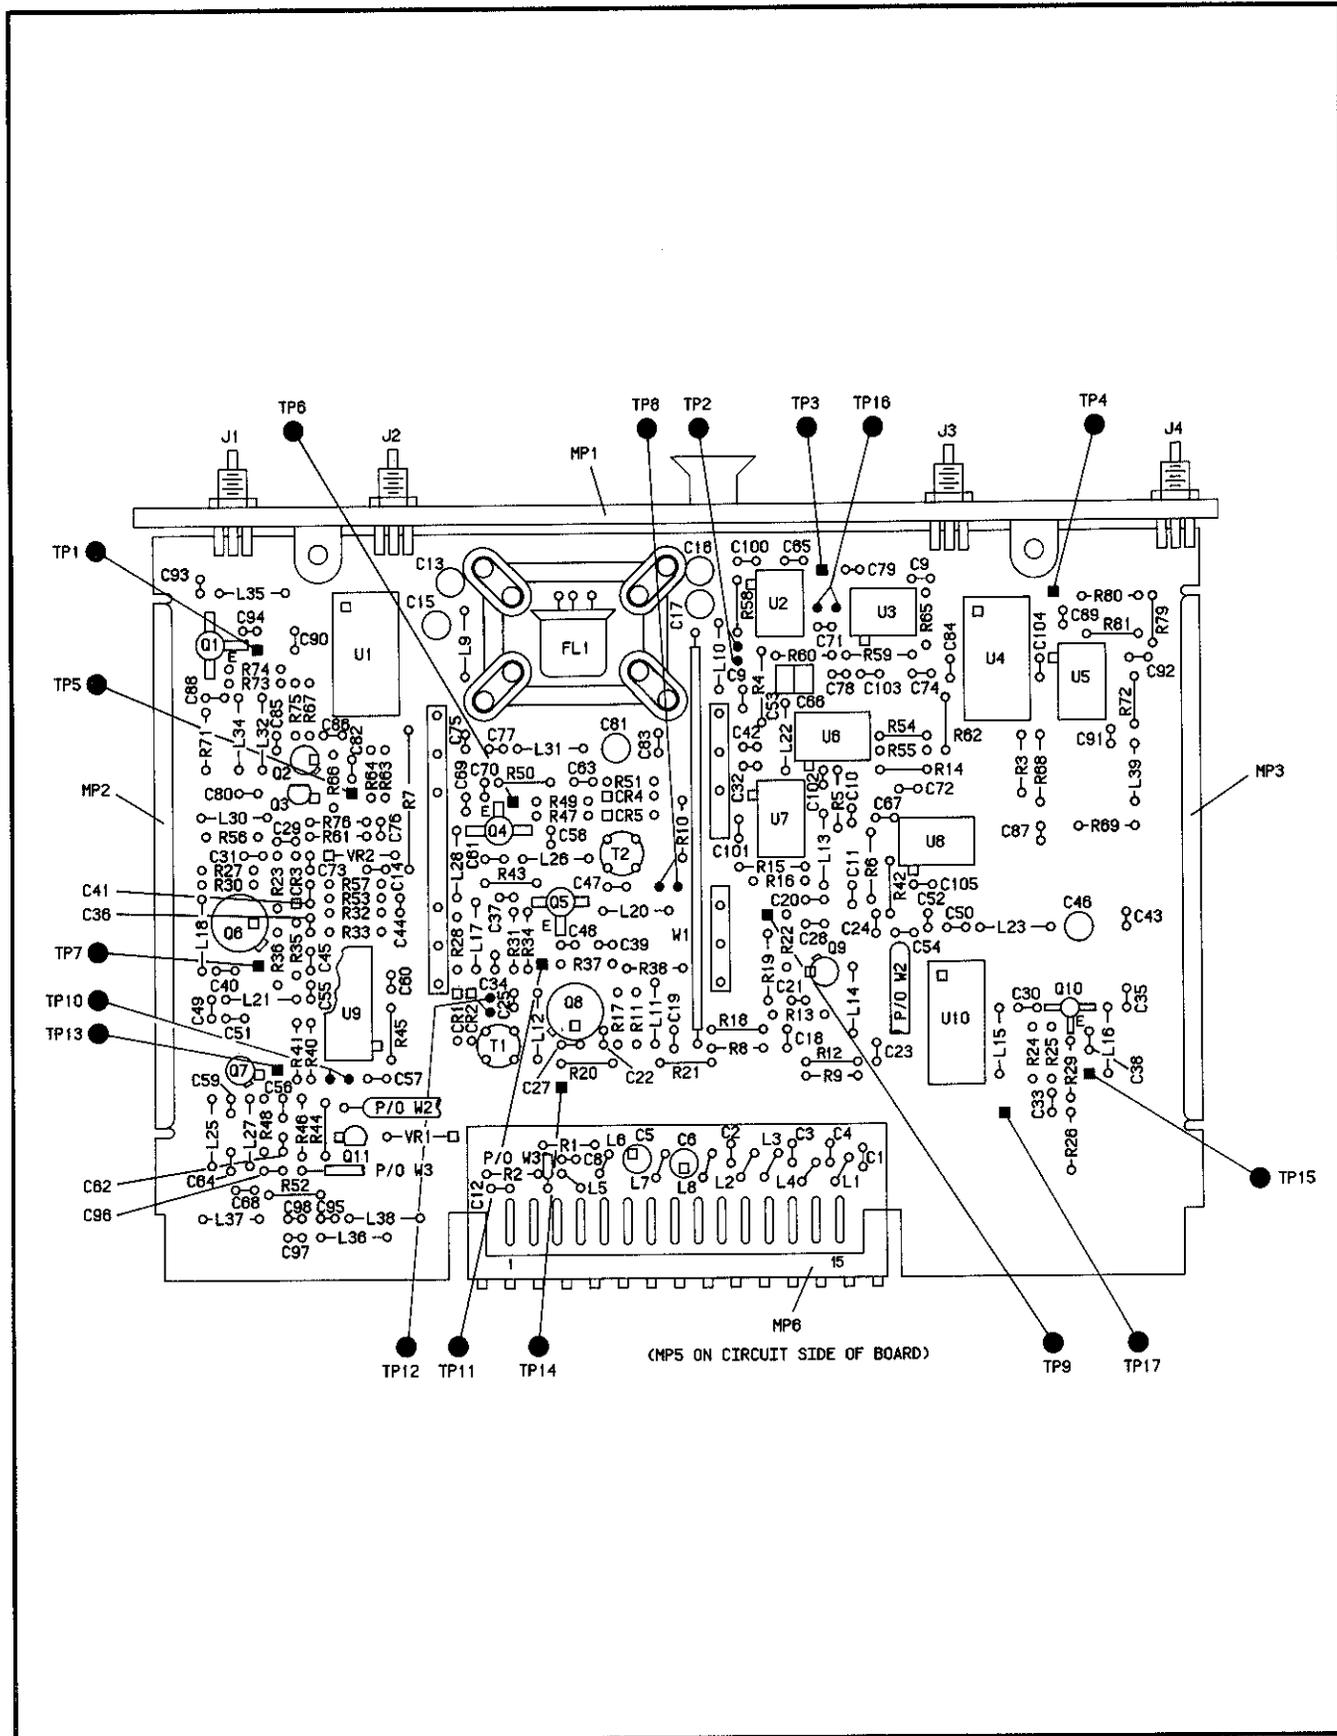

Figure 8-308. A6A3 Reference Section High Frequency Multiplier Component Locator
- A6A3R81-R83, C99 - Modify the component locator as shown in the partial component locator "P/O Figure 8-308. A6A3 Reference Section High Frequency Multiplier Component Locator (2333A)" on page 8-316.3
P/O Figure 8-308. A6A3 Reference Section HF Multiplier Component Locations (2333A)